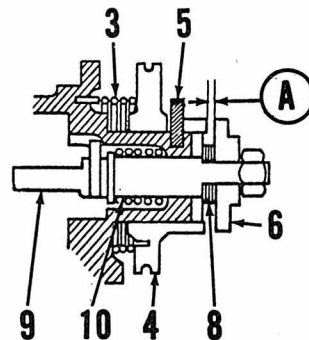

Fig. Y7-7—Clearance (A) is adjusted by varying shims (8).
Check the minimum plunger stroke by turning starter plate (16) until clearance (A—Fig. Y7-7) between pulley and adjusting plate is at minimum. Clearance (A) should be 0.20-0.25 MM (0.008-0.0098 inch) on DS6 models and 0.25-0.35 MM (0.0098-0.013 inch) on all others. If clearance is incorrect, add or deduct shims (8).